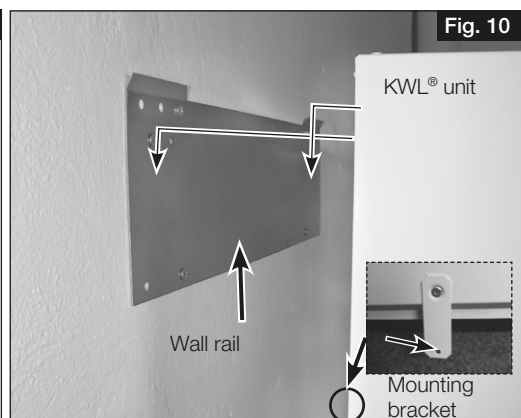

Fig. 10
- Hang the unit mounting bracket on the wall rail and additionally fix it to the wall with the lower mounting bracket (see Fig. 10).